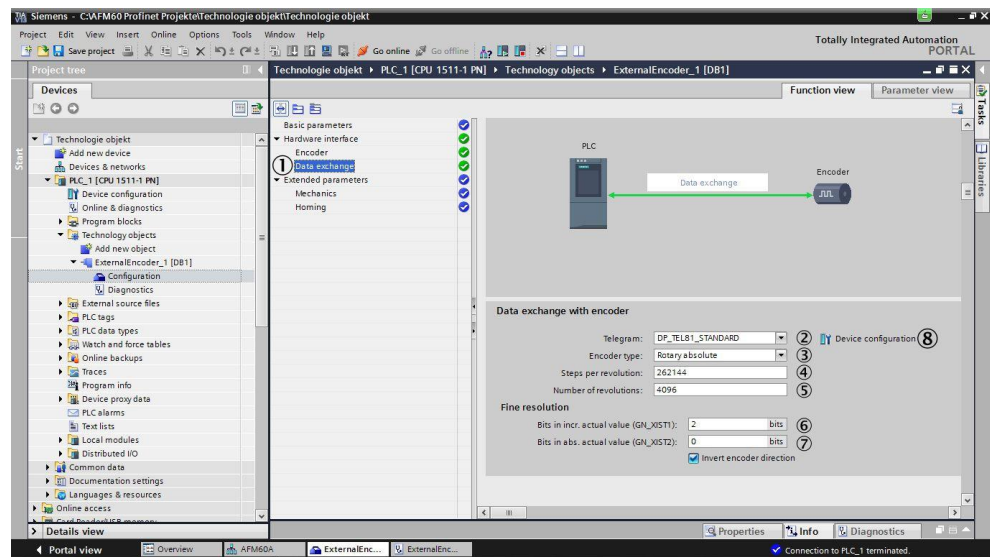

Figure 25: Data exchange
- ▶ Click **Parameter Access Point** (①), **Properties** (②) and then **Module parameters** (③).
- ▶ In the **Encoder Profile V3 Compatibility** field (④), choose the following options:
- ▶ The value in the **Measuring Units per Revolution LSDW** field (⑤) must be the same as the value in the **Steps per revolution** field in **Data exchange** (see Figure 25 on page 52).
- ▶ The value in the **Total Measuring Range LSDW** field (⑥) must be the same as the product of the value in the **Steps pre revolution** and the **Number of revolutions** field in **Data exchange** (see Figure 25 on page 52).